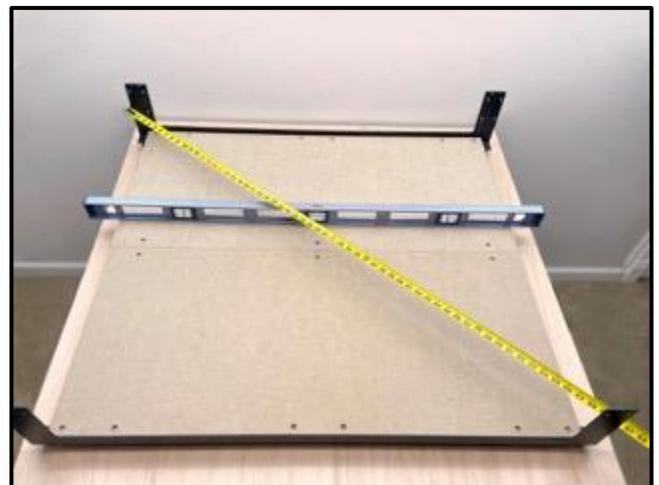

Figure 2-14
1. Adjust the leveling feet to bring the fully assembled baseframe into level. Check front-to-back, side-to-side, and diagonally. See **Figure 2-14**.
Optionally, if you wish to check for square now, you can do so by measuring diagonally across the baseframe from the outside edges of the endplates. Check both sides. The machine is square when the two measurements are equal. See **Figure 2-14**.